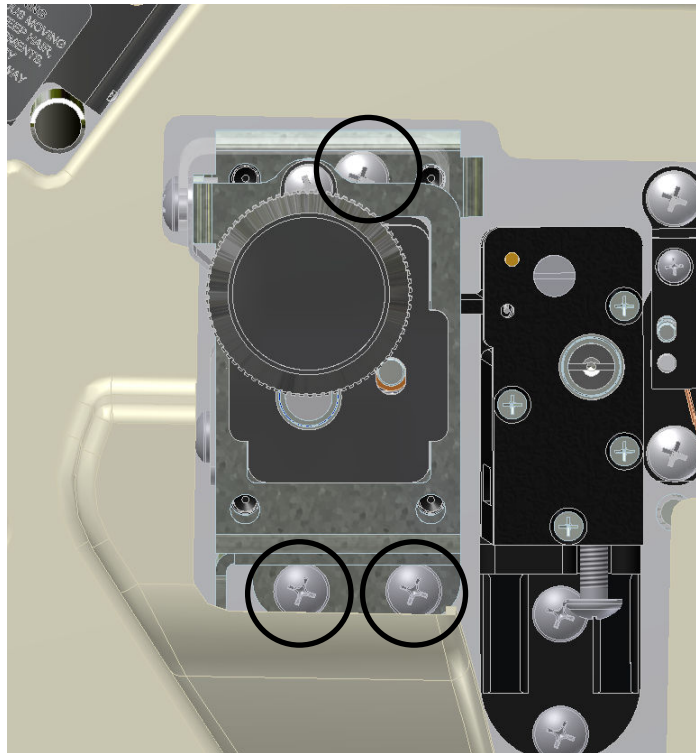

Figure 20b: Phillips Head Screws
7. Retighten Phillips head screws shown in figure 20b and retry printing.